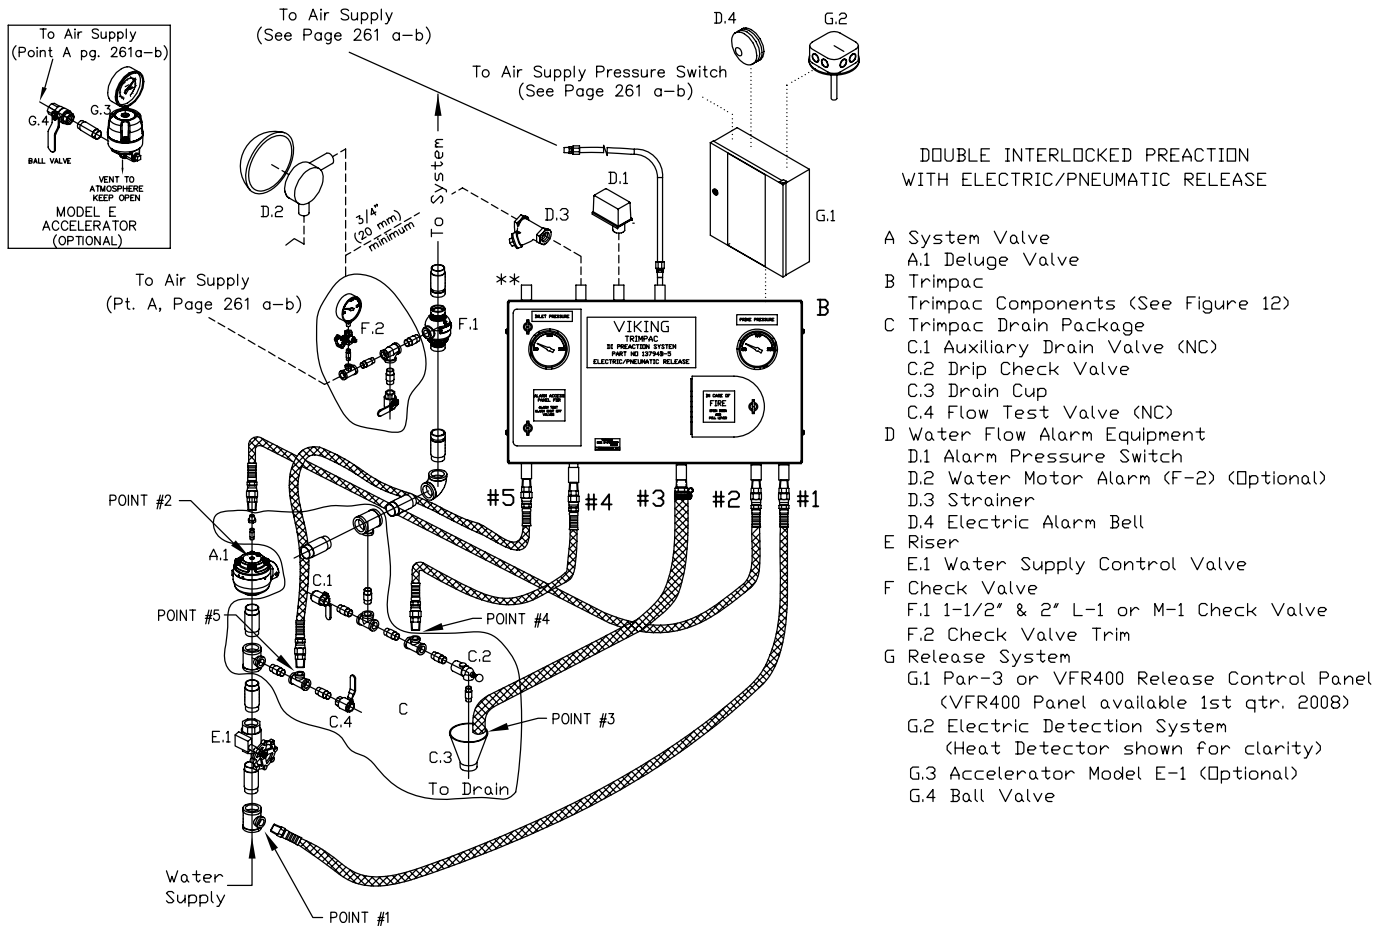

Figure 3
5. OPERATION (Refer to Figures 3 - 12.)
Refer to Figures 3 through 12 for component identification.
Legend for Figures 3 - 10